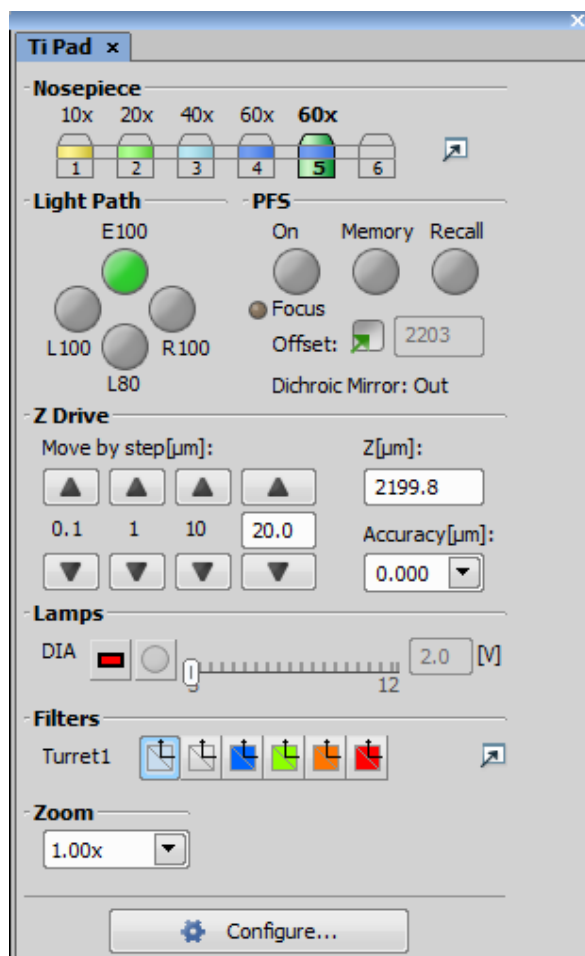
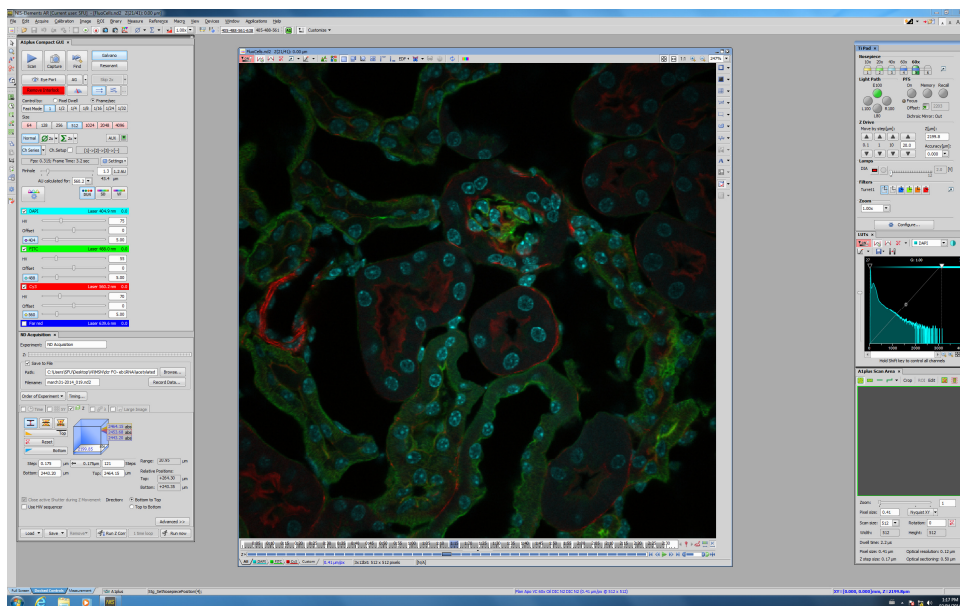
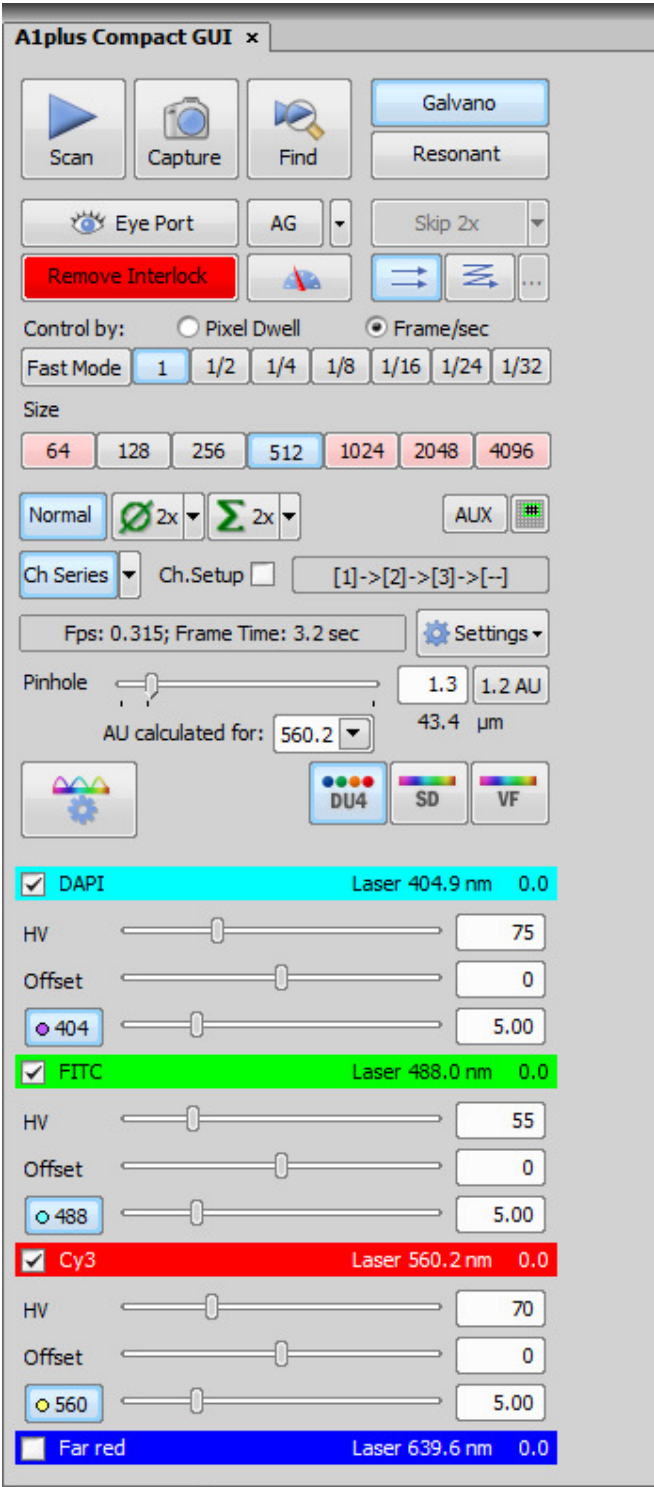

Figure 20. The Ti Pad dialogue box.
Figure 21. Layout of the all the controls and dialogue boxes of Elements C 4.2
Figure 22. A1Plus Compact GUI for controlling confocal imaging.
To achieve proper illumination of the samples (Kohler Illumination), several adjustments must be made. Use your 10x objective to start and put the condenser turret (Figure 19C) in the A position. Make sure the light path is on the eyepiece (Figure 6) and select DIC from the list of optical configurations at the top of the Nikon Elements software (Figure 21).
The software is Nikon Elements C version 4.2 (Figure 21). Most dialogs can be found under the View tab (Acquisition/Analysis/Visualization Controls) in Elements. As a shortcut these can also be found by right clicking in the open space of Elements. Elements obeys most Windows-based functions, shift/control and Alt are used often; right-clicks are used to display options/properties. Elements also uses “drag and drop” for overlaying windows and datasets
The Ti Pad (Figure 20) can control almost anything on the microscope from within the software. The Ti Pad state shown in Figure 20 is the default state at startup if no changes have been made on the microscope. Each button is clickable (i.e., click on 20x to move to the 20x objective). The Light Path is dependent on the type of imaging you want to do:
5.8.2 A typical layout for all the necessary controls and dialogue boxes is shown in Figure 21.
The A1plus Compact GUI (Figure 22) is a wizard that will walk you through acquiring a confocal image.
Make sure you have previewed your slide through the eyepieces and focused on an area of interest. Click on the L100 lightpath button of the Ti Pad (Figure 20), click the empty position for the filters turret, close the intensilight shutter if used and turn off the halogen bulb. Click on “Remove Interlock” in the GUI (will change from red to grey, Figure 22). Choose Galvano for standard imaging. Click the ‘405-488-561-640’ optical configuration button (the top of Figure 21) and select or deselect the DAPI, FITC, Cy3, Qdot channels as desired. Set the HV-Gain at 90 to start. Set the offset-background adjustment at 0. Set the laser power for each channel at 5% to start. Start with a scan size of 512x512 and scan speed 1 frame/sec. Select “Normal” and “Ch Series”. Select 1.0 AU for Pinhole. Start “SCAN” and a live scan window will appear. Adjust settings if needed.
- 5.8.4 To view the channel setup, use the “Setting”  button on the A1 Simple GUI (Figure 22)